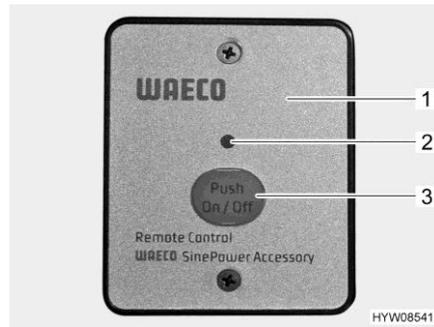

Fig. 134 External switch (AC converter)
The external switch (Fig. 134,1) is installed above the conversion door.
*Switching on:* ■ Press "On/Off" button (Fig. 134,3). The LED (Fig. 134,2) is on.
*Switching off:* ■ Press "On/Off" button (Fig. 134,3). The LED (Fig. 134,2) goes out.